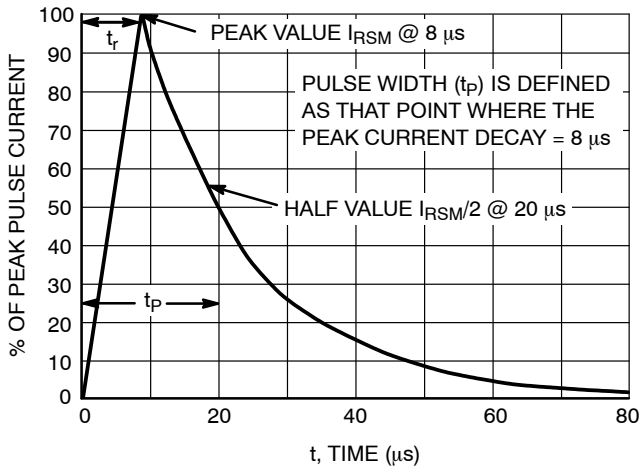

Figure 3. 8  $\times$  20  $\mu s$  Pulse Waveform
1. Non-repetitive current pulse per Figure 3
4. 8 x 20  $\mu$ s pulse waveform per Figure 3